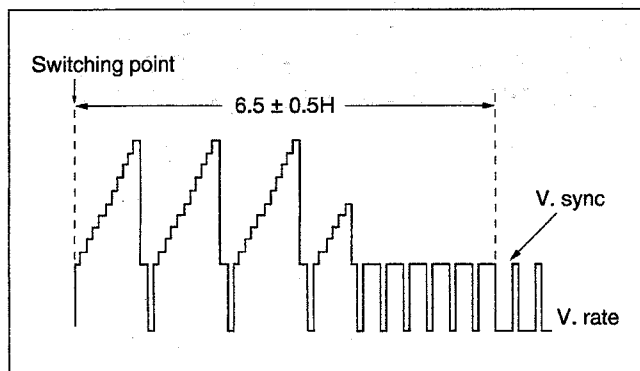

Fig. 3-2-2 PB switching point
- (4) Playback the alignment tape again, confirm the switching point. (See Fig.3-2-2.)